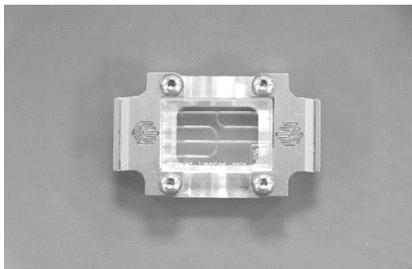

Figure 9
- Orientate the chip in the interface, see Figure 9.